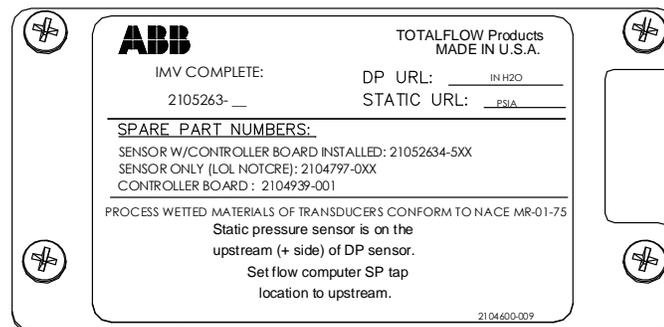

Figure 84: Cover plate with transducer information
5. On the transducer housing assembly, use a phillips screwdriver to remove the four (4) screws holding the cover plate in place. Remove and set the plate aside (Figure 84). The cover plate contains the transducer information and should stay with the IMV assembly.
- a. On the replacement transducer assembly, use a phillips screwdriver to remove the four (4) screws that secure the transducer cover plate containing the transducer information (Figure 84, page 103). Remove and set the plate aside.
- c. On the old transducer assembly, use a ¼ inch socket driver to remove the six (6) hex standoffs that attach the μ FLO^{G5} electronic board to the transducer housing.